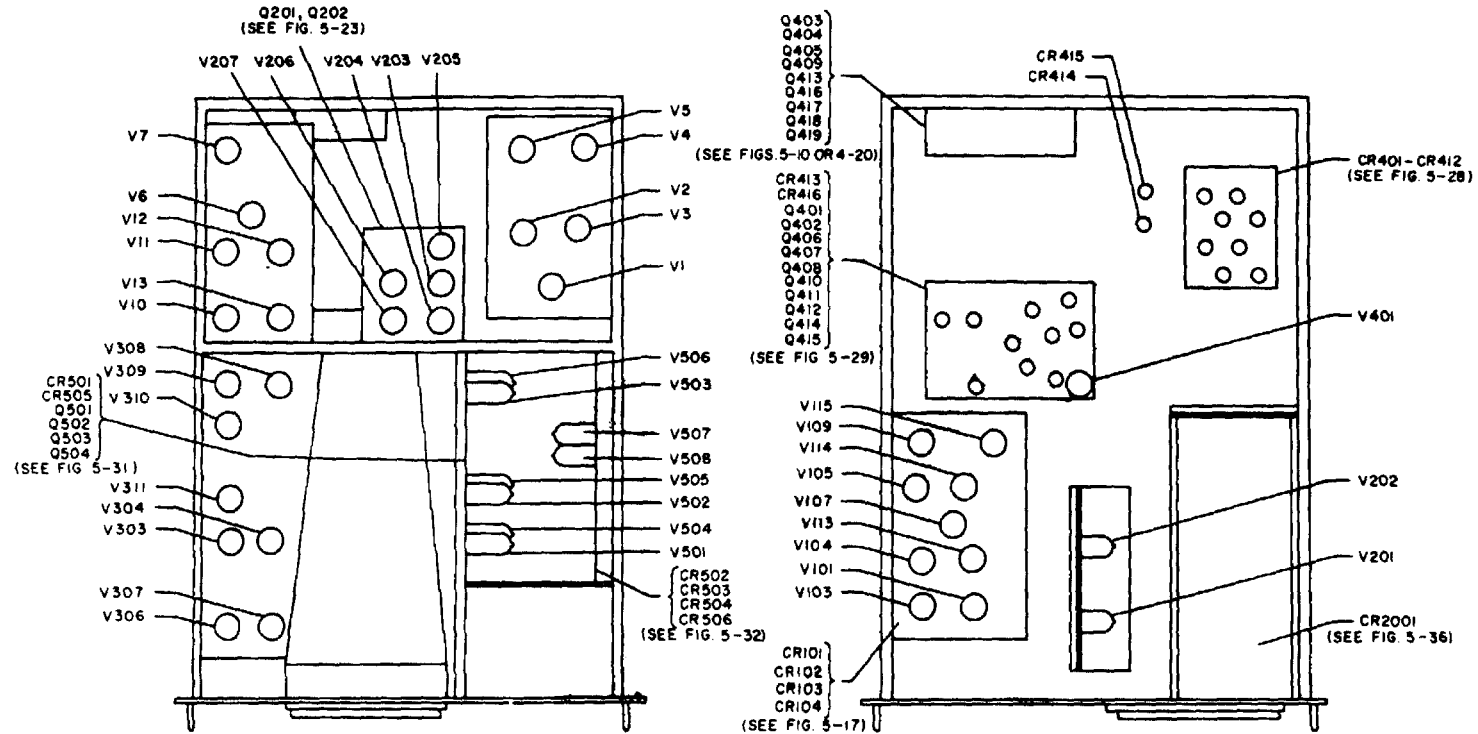

Figure 5-6. Top and Bottom Views, Location of Electron Tubes
a. TUBES. Electron tubes are best checked by replacement. Results obtained from an external tube tester can sometimes be misleading. Mark the tubes for identification as you remove them so you can return them to their original sockets if they are still good. Figure 5-6 shows the locations of the tubes and table 3-4 indicates the adjustments required following replacement of tubes, transistors, and diodes. Tube type 7308 may be replaced, in emergencies, by tube type 6922. The latter type, however, draws a different heater current and may unbalance the heater supplies. If such a substitution is made, check the \pm 6.3 volt supplies to assure that they are within 0.2 volts of each other. Balance can be restored by tube selection. An unused replacement 7308 tube may exhibit a stabilizing action for about 24 hours of operation after it is first placed in service. Tubes which have been "aged" at normal operating conditions for this period of time can be used for replacement if it is necessary to avoid a change in tube characteristics during this short break-in period. The V508 position in the MX2930B/USM Dual Trace Preamplifier is sensitive in this respect. Aged and balanced tubes are recommended for replacement use in this position.
d. REMOVAL OF HIGH-VOLTAGE POWER SUPPLY TUBES. The four high-voltage rectifier tubes, the oscillator, and regulator tubes are located under a cover accessible through the left side gusset (see figures 5-6 and 5-12). To remove the cover, remove the four machine screws securing the cover to the high-voltage power supply. Disconnect oscilloscope from power source before working on any part of the high-voltage supply. Short the tube plate caps to ground before removing them from the tubes. To remove the four rectifier tubes remove the insulator plate that secures the tubes.
e. ACCESS TO SWEEP GENERATOR TUBES. The sweep generator tubes may be reached by removing the MX-2930B/USM Vertical Plug-In and the shield plate in tile floor on the empty plug-in well. Two screws hold the shield in place. Return the shield before replacing the plug-in unit. Refer to figure 5-6.